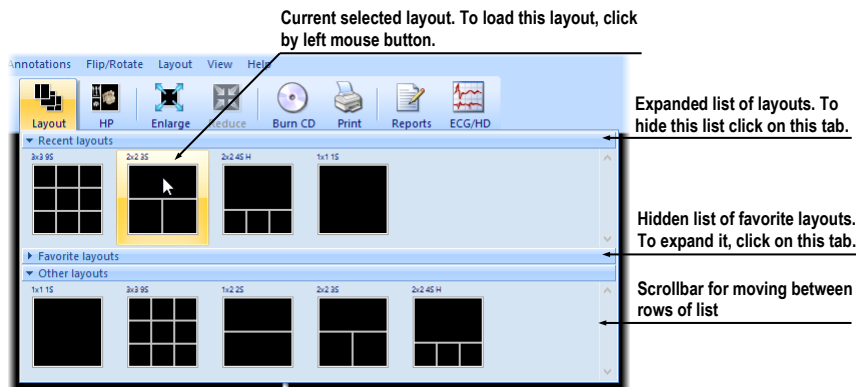

Figure 12 – Layout list
- Click the required layout in the displayed window (see Figure 12). The selected layout is automatically loaded into the application.